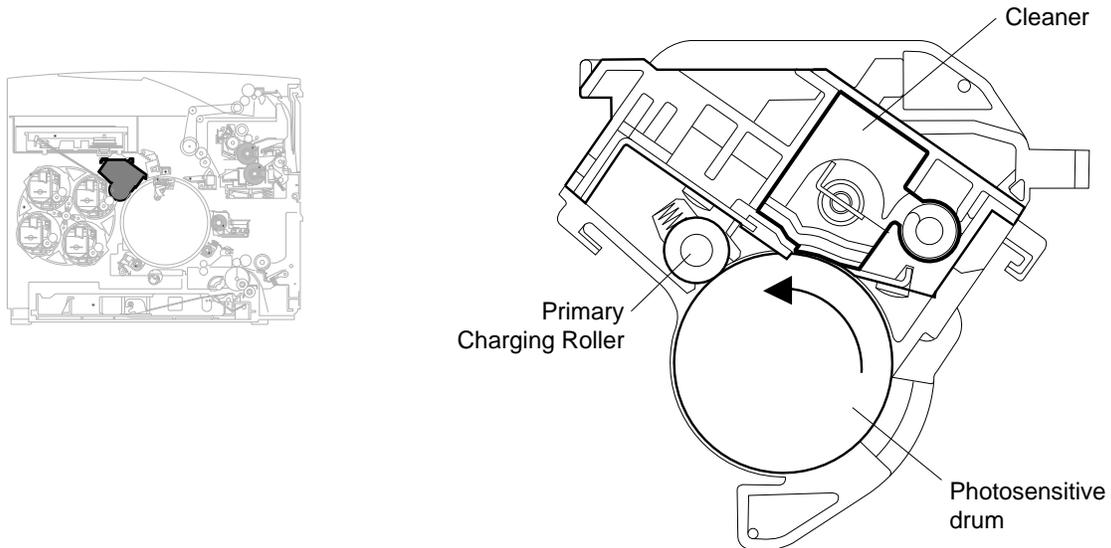
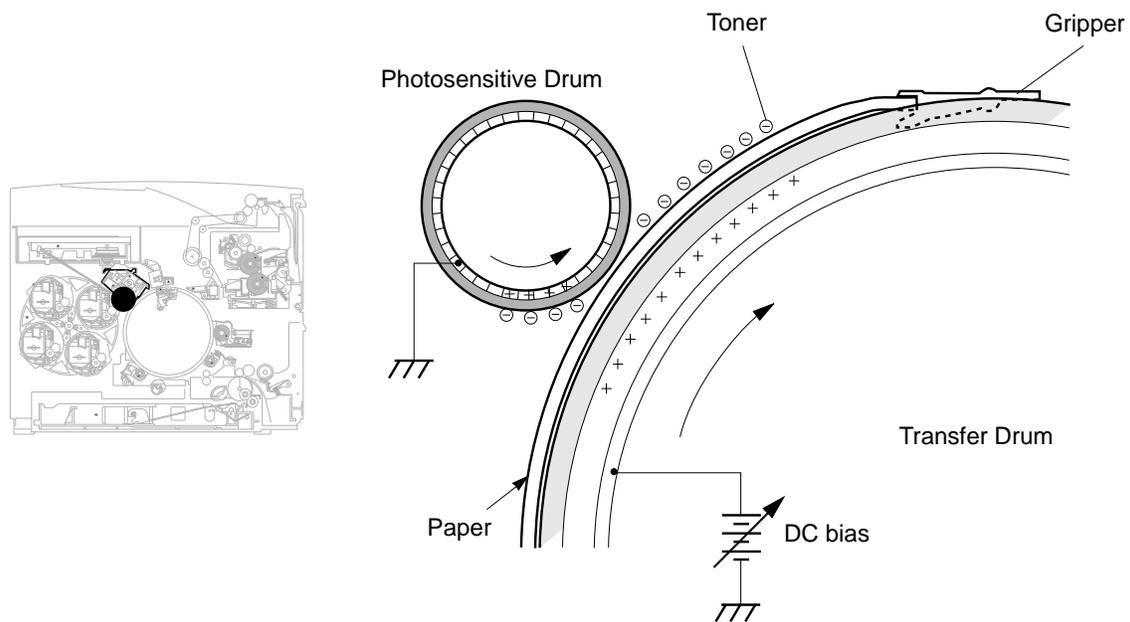
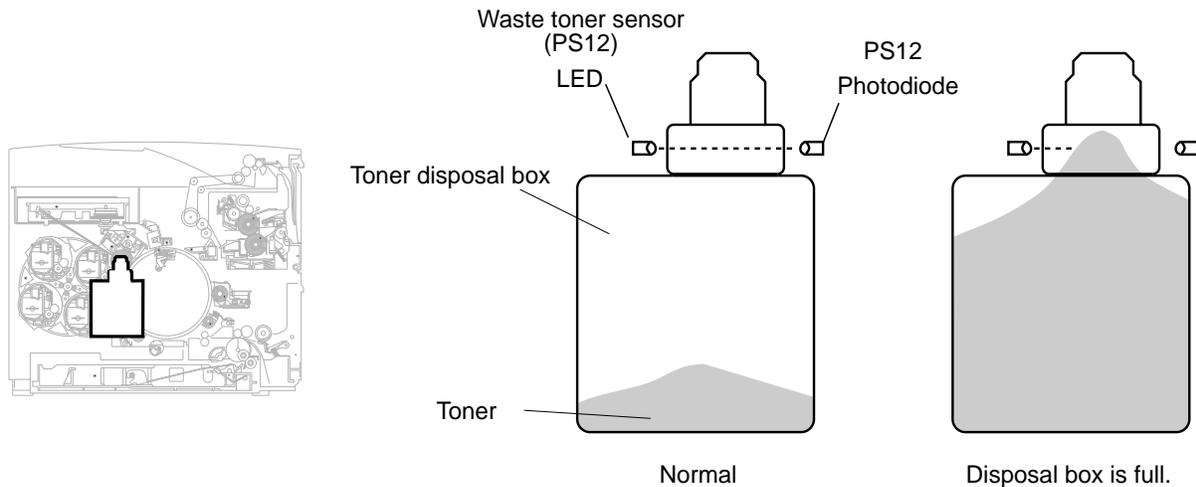

Figure 2-6: The Photoconductor Cartridge
Figure 2-7: Photosensitive Drum
Figure 2-8: Toner Disposal Box
The photoconductor cartridge (Figure 2-6) contains the primary charging roller, the photosensitive drum, and the cleaner unit. It is a consumable module, replaced by the user.
The primary charging roller (see Figure 2-6) applies a uniform negative charge to the photosensitive drum, preparing it to be exposed to the laser beam.
The photosensitive drum (see Figure 2-6) is a cylinder coated with an organic photoconductor. After receiving a uniform negative charge from the primary charging roller, the photosensitive drum is exposed to the laser beam, which neutralizes the charge wherever it hits, creating the electrostatic latent image of the page. The neutral areas attract the negatively charged toner from the toner cartridge by their relatively higher potential. Then the photosensitive drum rotates, carrying the toner to the paper on the transfer drum. The higher positive charge provided by the transfer drum causes the toner to jump to the paper (see Figure 2-7).
As each part of the toner image is transferred to the paper, the cleaner unit inside the photoconductor cartridge (see Figure 2-6) scrapes any residual toner from the photosensitive drum. The scraped-off toner is deposited in a toner disposal box (Figure 2-8). When the toner disposal box is full, the printer signals the user that the box must be replaced.
- **It provides the positive charge that attracts the toner to the paper** (see Figure 2-7). The inner part of the transfer drum is given a positive charge by DC bias from the high voltage power supply. The charge attracts the toner from the photosensitive drum to the paper. (In B/W LaserWriter printers, this function is performed by the transfer corona wire or transfer roller.)